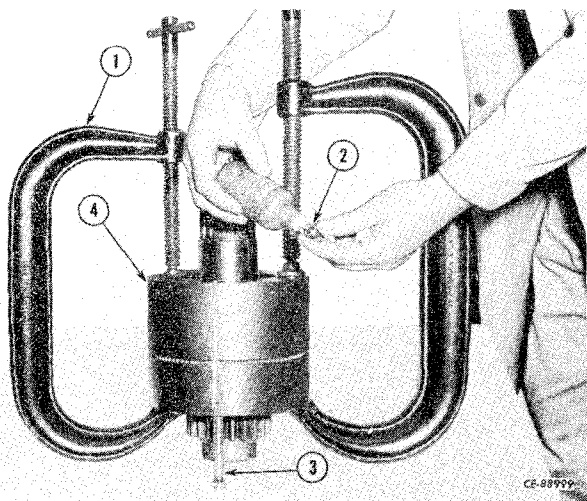

Figure 4-135
Install the backing plate (4, Fig. 4-135) on the cylinder, aligning the punch marks made during disassembly. Use "C" clamps (1) to compress the springs. With the studs (3) and nuts (2) free of oil and dry, apply a small amount of Loctite Type "A" to the lock nut threads. Using a light torque wrench, record the frictional drag of